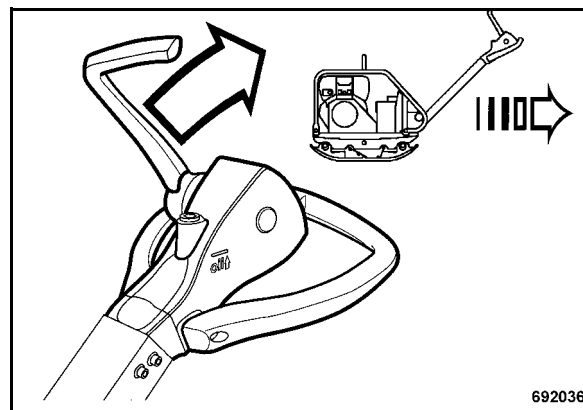

Fig. 30
- Pull the travel lever (Fig. 30) back, until the vibratory plate has reached the desired speed in reverse.